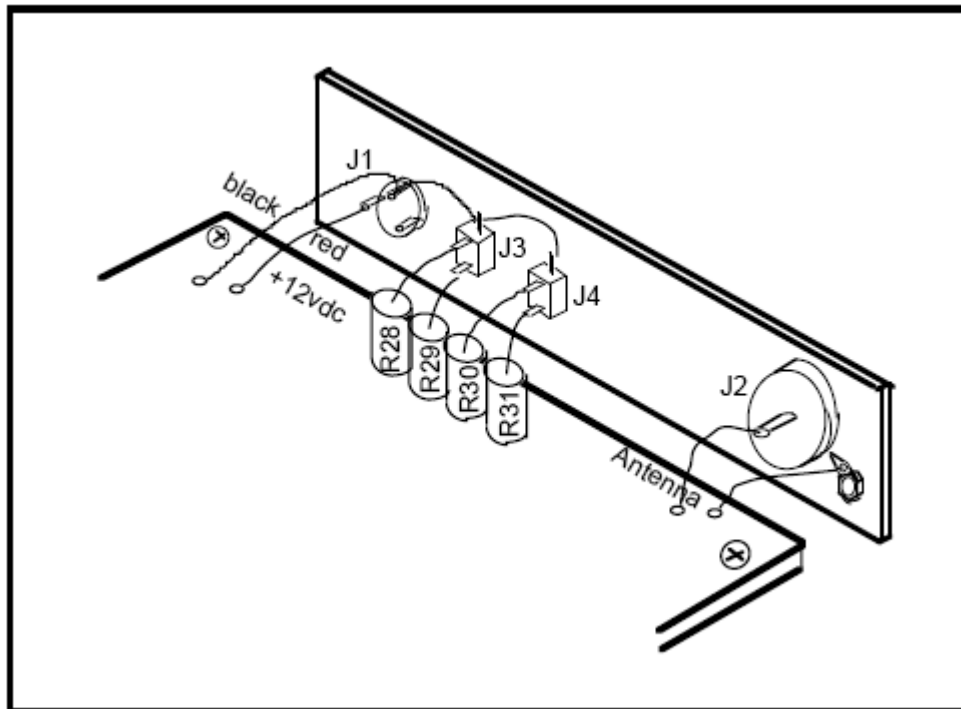

Figure 12. Rear panel wiring
14. q Install one end of each fixed resistor R28-R31 on the PC board. The bottom of each resistor should be flush with the board. The other end of each resistor will be soldered later to the audio jacks (see Figure 12).
11. q Complete installation of resistors R28, R29, R30 and R31 as shown below. Leave a little extra lead length so that the resistor leads are not taut. Leave a little extra lead length so that the resistor leads are not taut. First solder R29 and R31 on the bottom tabs of the two audio connectors. Then solder R28 and R30 to the top horizontal tabs as shown in Figure 12.